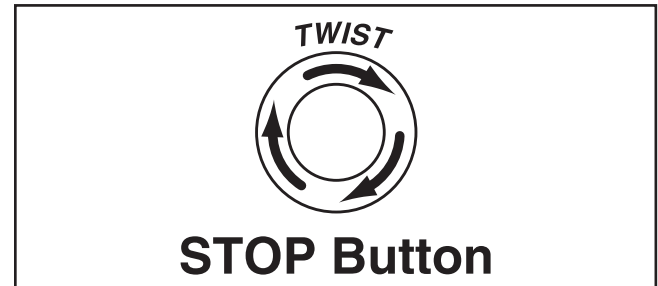

Figure 15. Resetting the STOP button.
4. Push the STOP button in, then twist it clockwise so it pops out. When the STOP button pops out, the switch is reset and ready for operation (see **Figure 15**).